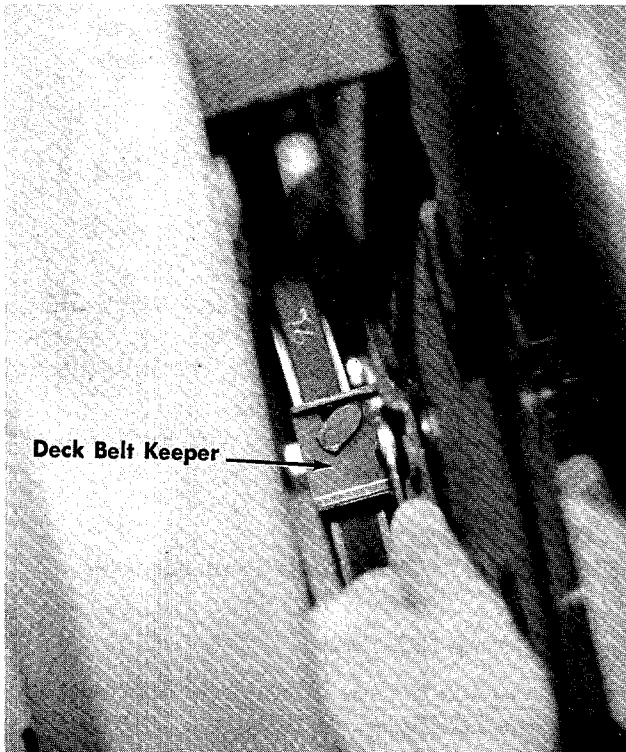

FIGURE 16. REMOVAL OF DECK BELT KEEPERS
- Step 3. Remove two belt keepers at the deck pulley and shoulder bolt. See figures 16 and 17.